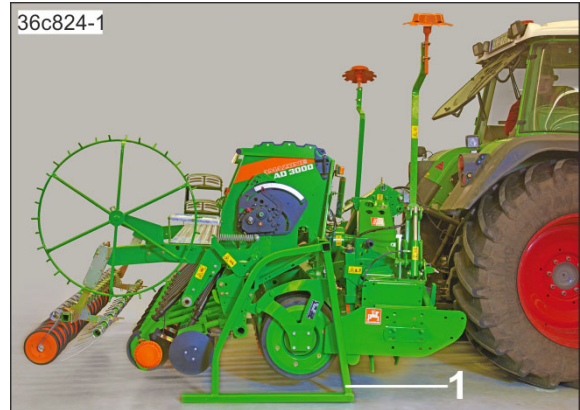

Fig. 131
11. Remove the parking supports (Fig. 131/1).